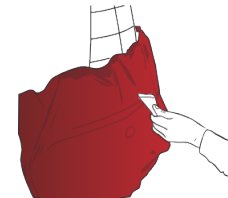

Figure 21
- ▶ Apply the film over the whole surface using a felt-covered, plastic squeegee, and carefully wipe over the convex area (FIG. 21) to eliminate any tensions and folds.